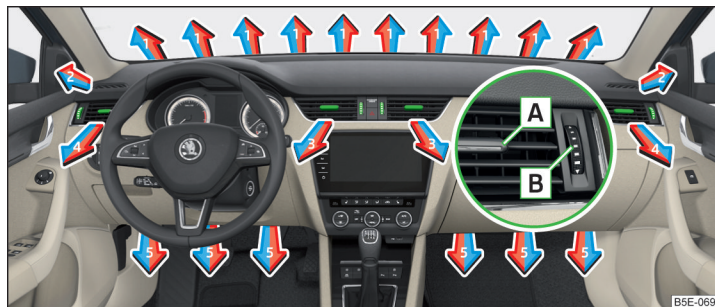
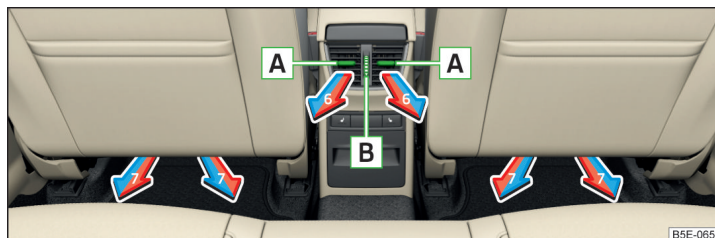

Fig. 156 Air vents at the front
Fig. 157 Air vents at the rear
The direction of airflow can be adjusted using the air outlet vents **3, 4** » Fig. 156 and **6** » Fig. 157, and the vents can be opened and closed individually.
The setting of the airflow direction is carried out by moving the adjustment element **A** » Fig. 156 or » Fig. 157 in the desired direction.
- To **open**, turn the controller **B** » Fig. 156 or » Fig. 157 upwards.
- To **close**, turn the controller **B** » Fig. 156 or » Fig. 157 downwards.
Set the direction of the air outlet	Air vents » Fig. 156 and » Fig. 157